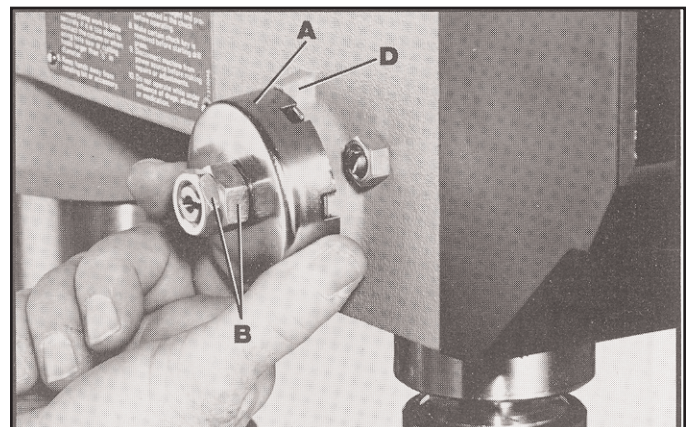

Fig. 25
3. While firmly holding spring housing (A) Fig. 25, pull out housing and rotate it until the boss (D) is engaged with the next notch on the housing. Turn the housing counterclockwise to increase and clockwise to decrease spring tension. Then tighten the two nuts (B) to hold the housing in place.